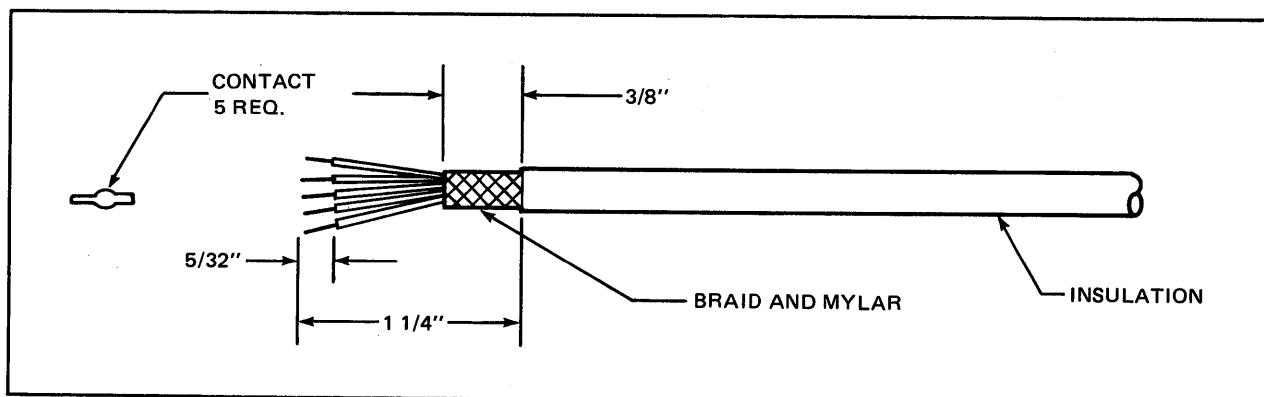

Figure D-13. Five-Wire Cable Prepared For CRIMPED RF Can
1. Prepare the cable as shown in Figure D-13.